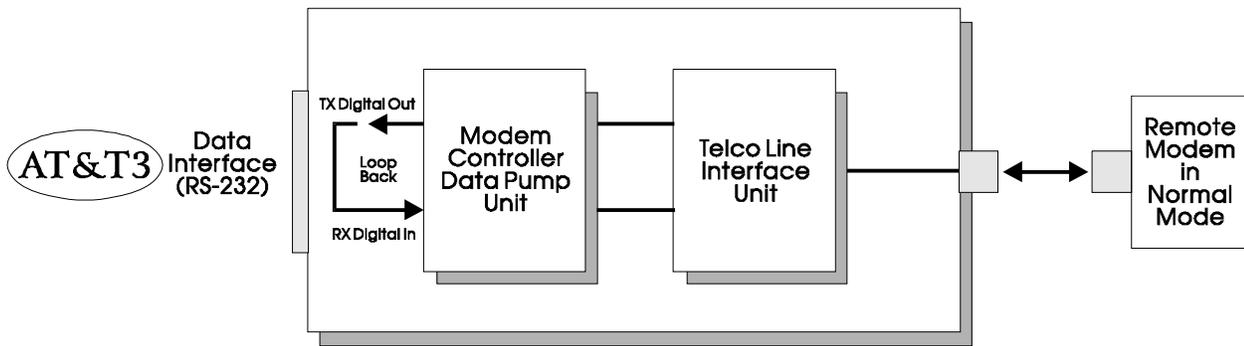

Figure 4-3. Perform Local Digital Loopback Diagram
- Local Digital Loopback (see *Figure 4-3*)